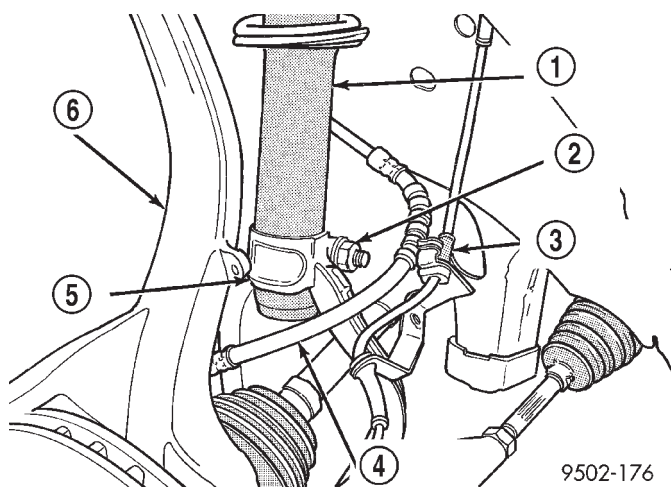

Fig. 9 Shock Absorber Clevis Bracket Pinch Bolt
(8) Remove pinch bolt attaching shock absorber clevis to shock absorber (Fig. 9).
(3) Install the pinch bolt retaining the shock clevis to the shock absorber (Fig. 9). Tighten the pinch bolt to a torque of 88 N·m (65 ft. lbs.)